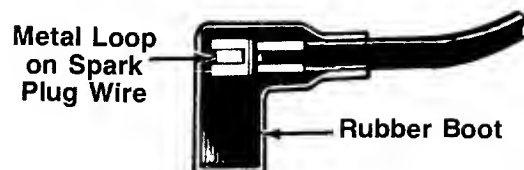

FIGURE 19.
2. Attach spark plug wire to spark plug. If unit is equipped with a rubber boot over the end of the spark plug wire, make certain the metal loop on the end of the spark plug wire (inside the rubber boot) is fastened securely over the metal tip on the spark plug. See figure 19.